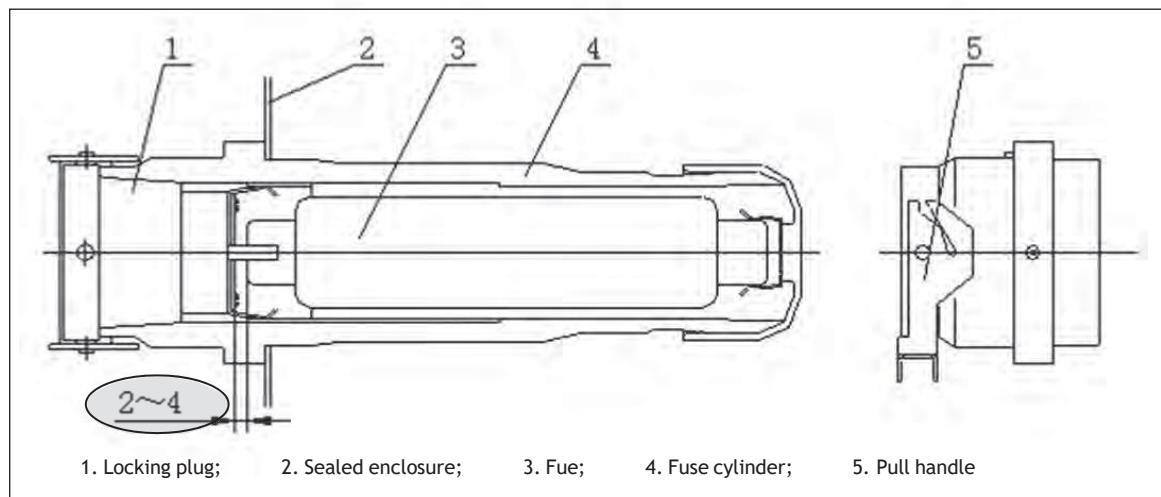

Figure 17 Fuse cylinder structure diagram
- Install a new fuse, ensuring a dimension of 2 to 4mm as shown in **Figure 17**. Check whether the installation direction is correct, because the fuse's striker pushes the load switch to open after the fuse is blown. Therefore, the striking end of the fuse (small end) must be outward;